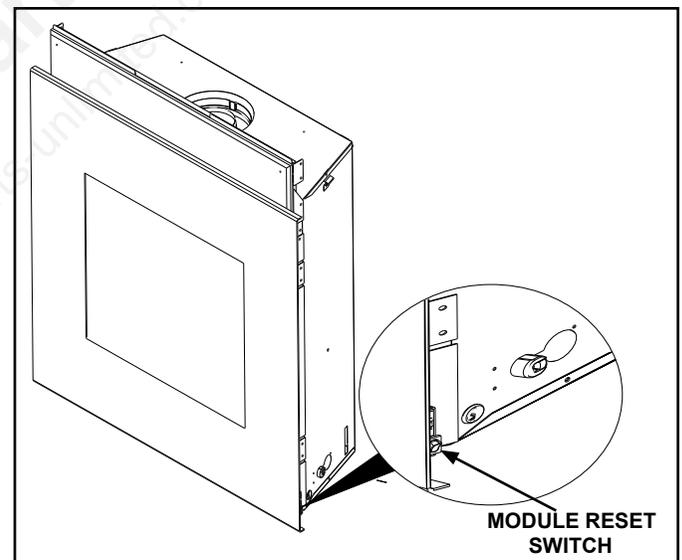

Figure 2.4 Location of Module Reset Switch - Studio Front
- Locate the module reset switch. See Figures 2.4 or 2.5.
- Wait five (5) minutes to allow possible accumulated gas to clear.